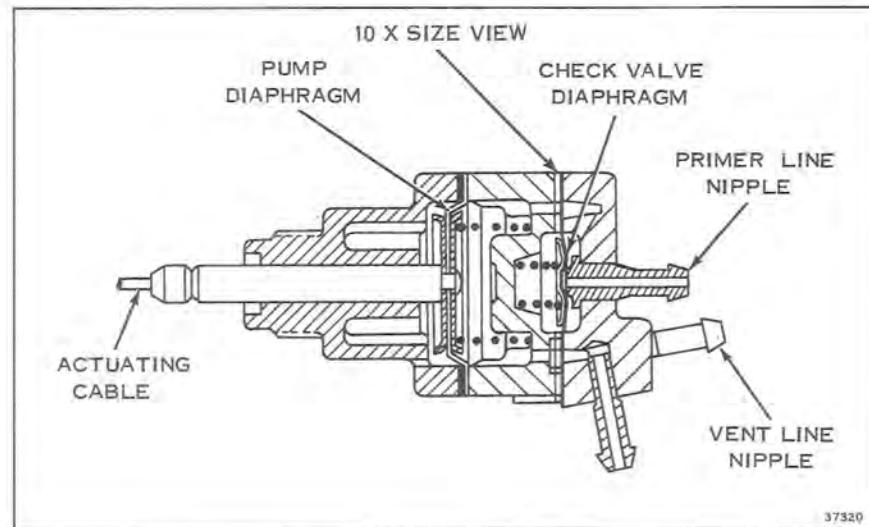

Figure 6-15
- b. To check operation of the primer, disconnect primer line from carburetor. A spurt of fuel should be evident when the plunger is depressed. If little or no fuel is discharged, check for crimped primer line, dirt in check valve diaphragm or bad pump diaphragm. See Figure 6-15.